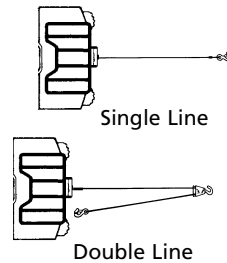

Figure 2
1. Maximum working load capacity is on the wire rope layer closest to the drum. **DO NOT OVERLOAD. DO NOT ATTEMPT PROLONGED PULLS AT HEAVY LOADS.** Overloads can damage the winch and/or the wire rope and create unsafe operating conditions. **FOR LOADS OVER 1/2 RATED CAPACITY, WE RECOMMEND THE USE OF THE OPTIONAL PULLEY BLOCK TO DOUBLE LINE THE WIRE ROPE (Figure 2).** This reduces the load on the winch and the strain on the wire rope by approximately 50%. Attach hook to load bearing part. **The vehicle engine should be running during winch operation.** If considerable winching is performed with the engine off, the battery may be too weak to restart the engine.